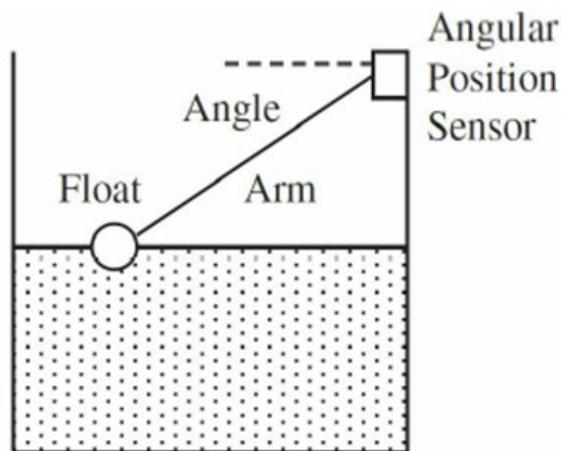

Figure A1(c) / Rajah A1(c)
- CLO1 (c) The Figure A1(c) shows an angular arm float sensor. A ball float is attached to an arm and angle of the arm is measured to indicate the level of the material, for example in monitoring of the fuel level in the tank of an automobile. By using the concept above, show the system operation of simple resistive (potentiometer) fuel tank gauge to obtain an electrical signal with suitable diagram.